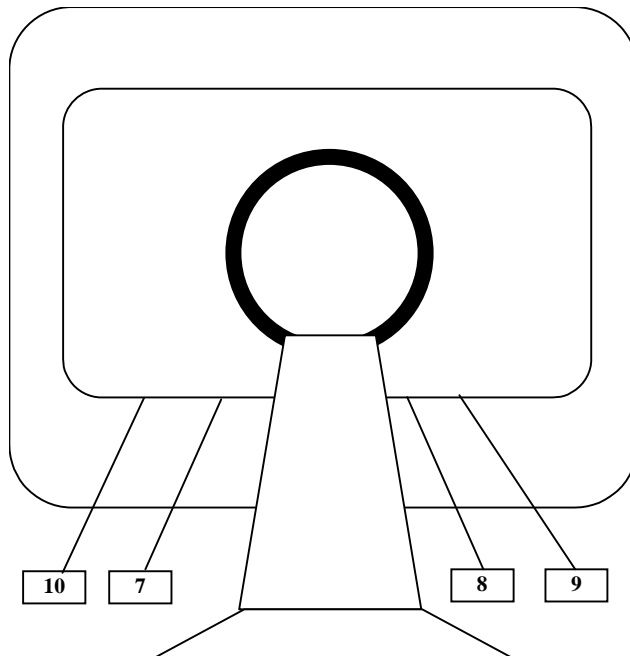

Figure 52: : SAMSUNG LCD213T connection panel
The connection panel of the SAMSUNG LCD213T colour monitor under a cover on the rear panel includes (See Figure 52) :
- ☞ Refer to Figure 52.